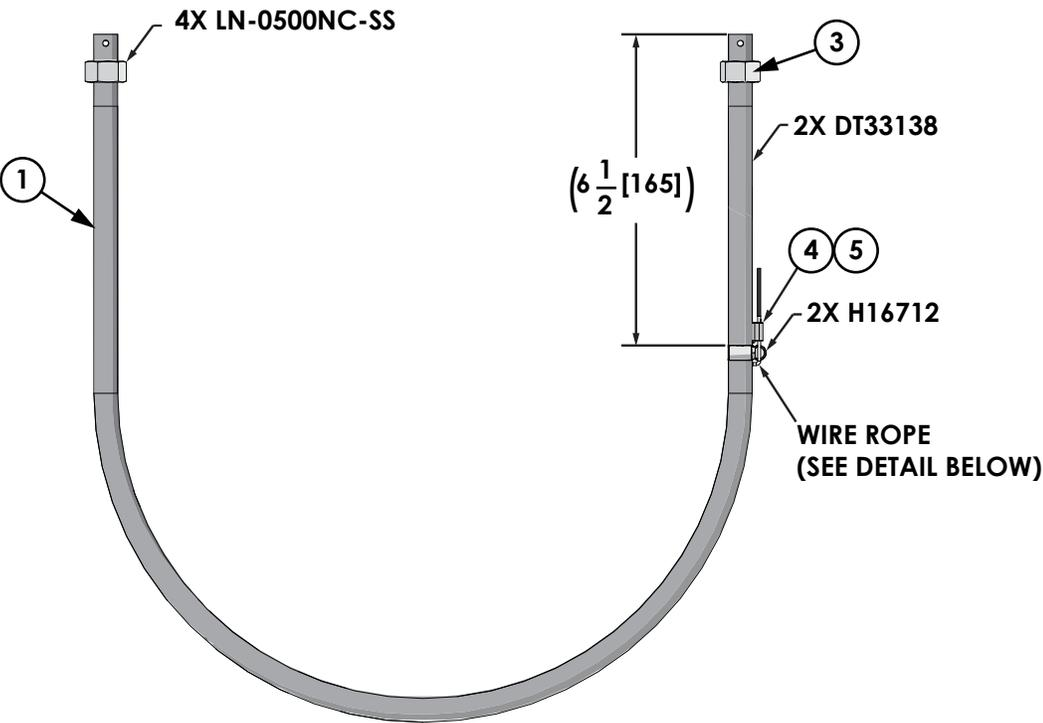
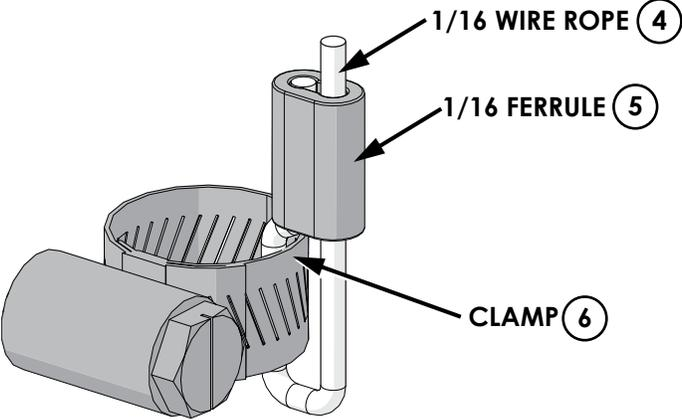

Figure 3: Detail of U-bolt
Figure 4: Crimp safety wire to Item 6 (hose clamp)
1. Make a closed loop with wire rope around each hose clamp and crimp before securing hose clamp to the U-bolt as shown on Figure 3 and Figure 4. Locate hose clamp (H16712) around 6 1/2 inches from the end of the thread of the U-bolt and secure it as shown on Figure 3.